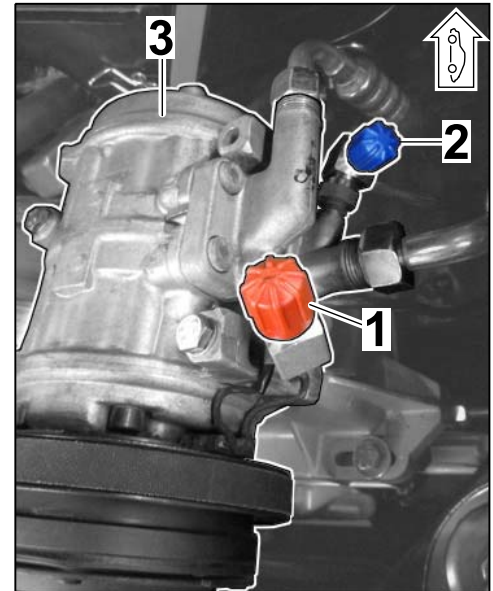

Figure 3
1.1.3 Unscrew protection cap (red/blue) from the valves (\Rightarrow Figure 3).